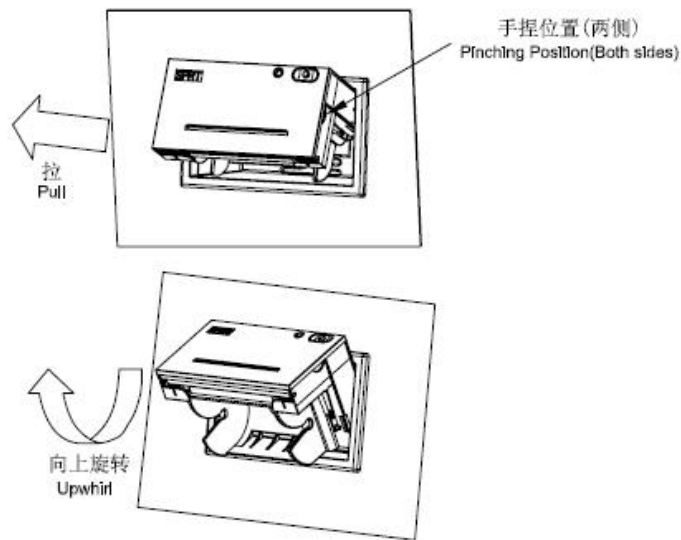

Figure 2-3
- (2) After inner shell ejected, hold both sides and pull them outward until the end as direction of figure 2-3, rotate it upward and press the whole downward, until fastened.